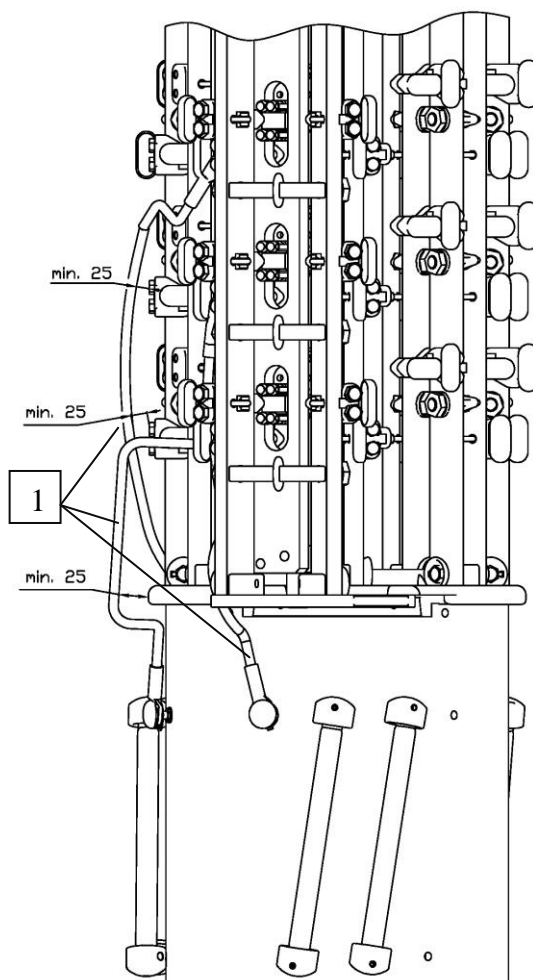

Fig.30 – Tie-in resistors mounted under the selector.
When the on-load tap changers are with tie-in resistors (fig.30), the current-carrying conductors xp, yp and zp of the tie-in resistors to the selector (pos.1), must be situated in such a way as to be minimum 25mm distanced from the selector's metal parts.